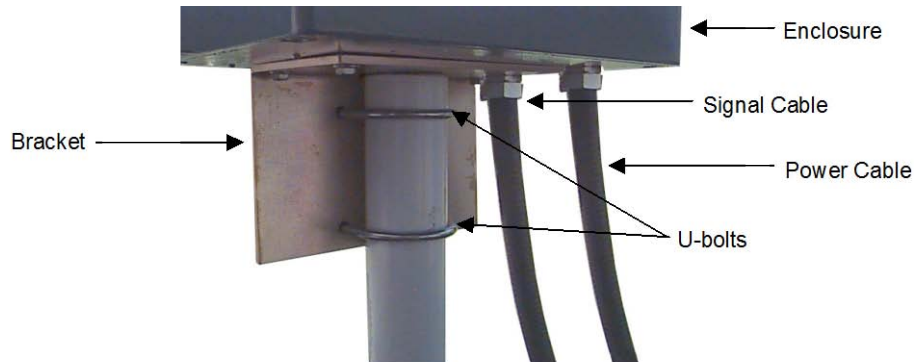

Figure 52. Sensor Package Mounting
6. Set the sensor package (antenna, ground plane, enclosure, and bracket) on the mast, and fasten loosely with two U-bolts, lock washers, and flat washers as shown in Figure 52.